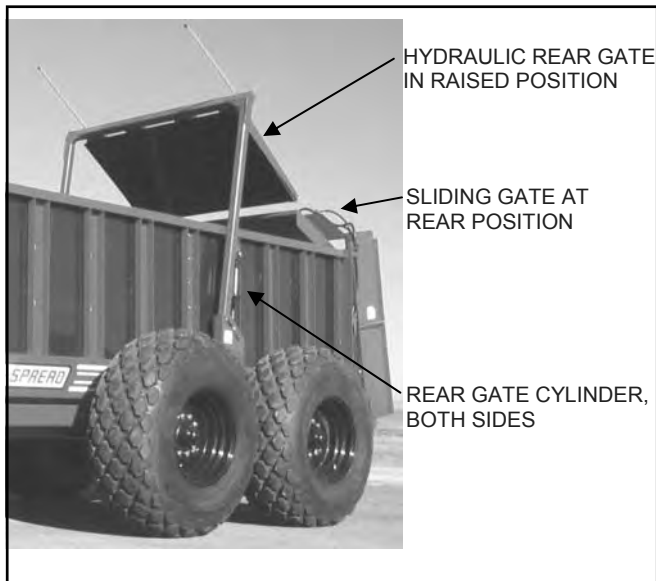

FIGURE 5. HYDRAULIC REAR GATE AND SLIDING GATE
An end gate at the rear of the spreader is raised and lowered by two hydraulic cylinders, powered by the tractor hydraulic system. See figure 5 page 17. This gate must be lowered during loading to prevent packing of the material into the beaters and to help prevent leakage during transport.
When the sliding gate reaches the rear of the spreader (see figure 5) it will bear against mechanical stops. The tractor hydraulic system will sense increased hydraulic pressure and return the spool valve to the neutral OFF position. The same process occurs when returning the gate to the front.
2. Raise the hydraulic rear gate completely up. See figure 5.
(See figure 5)